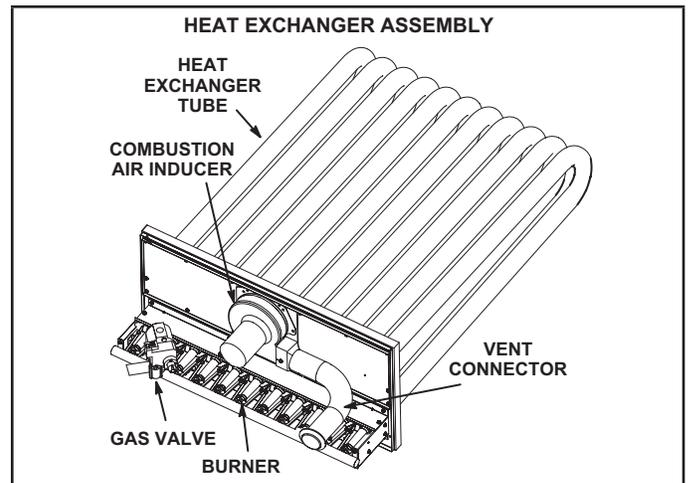

FIGURE 14
**2-Heat Exchanger (FIGURE 14)**